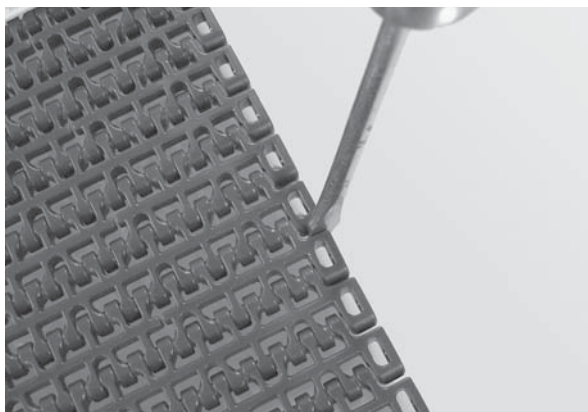

Figure 47
1. Place the edge of a flat head screwdriver between the two belt links and turn clockwise (**Figure 47**).